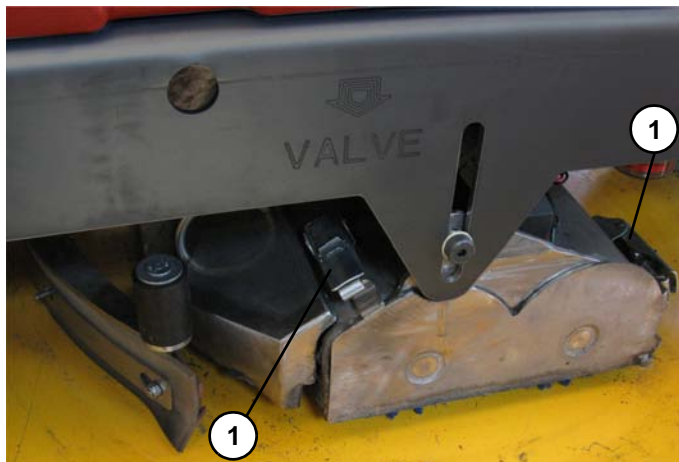

Figure 5-17
3. By operating on the right side of the wash-and-dry machine, release the retainers and cam (1, **Figure 5-17**).